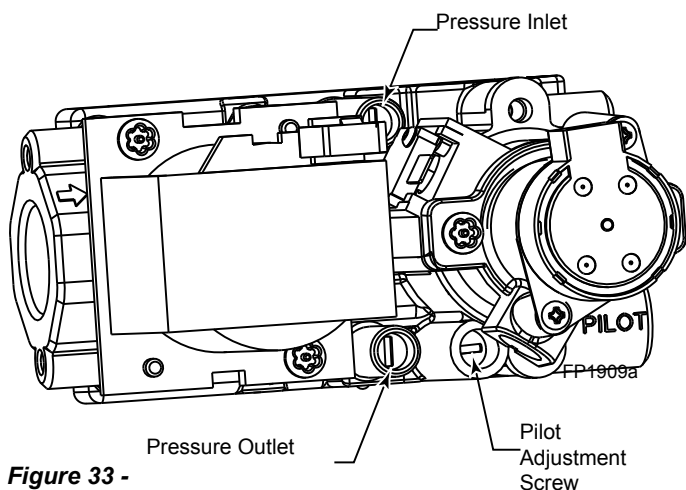

Figure 33 -
4. To check gas pressures at valve, turn captured screw counter clockwise 2 or 3 turns and then place tubing to pressure gauge over test point. Turn unit to high. *Figure 33*. After taking pressure reading, be sure and turn captured screw clockwise firmly to reseal. Do not over torque. Check test points for gas leaks.